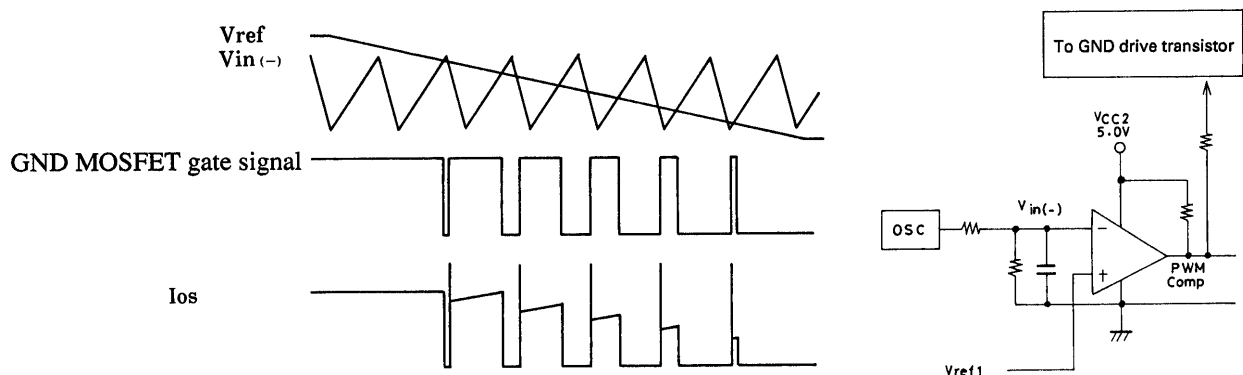

Fig.1 PWM Drive Principle
For revolution speed control, the V_{ref1} pin voltage is converted and used for PWM drive to increase GND transistor efficiency, controlling the conduction of motor current I_o (Fig. 1). Control of I_o means control of power supplied to the motor, which controls motor rpm. In general motor rpm N is proportional to the PWM on duty (when motor load is constant). The PWM on duty is proportional to the size of V_{ref1} (see Fig. 13), and the relation of N is as outlined below.